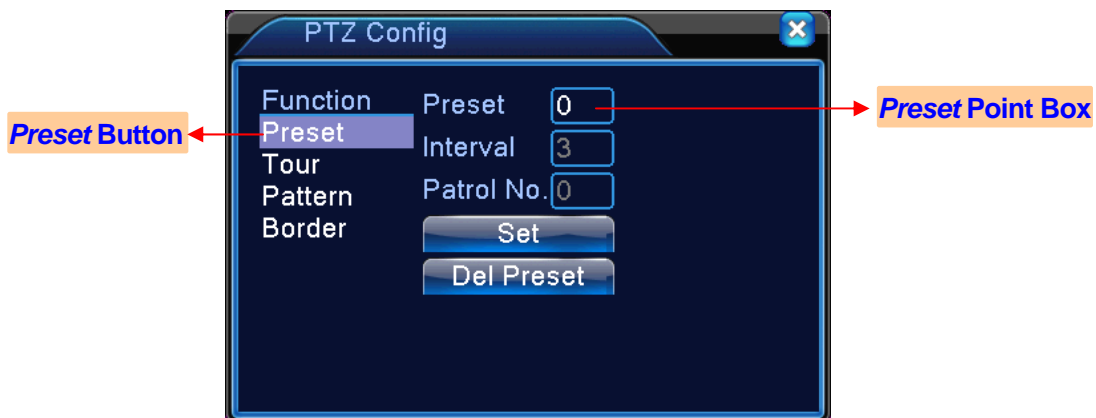

Figure 3.8 Preset
**Step 1:** In Figure 3.7, use the direction key to turn the PTZ to the preset position, and click **[Set]** to enter Figure 3.8.